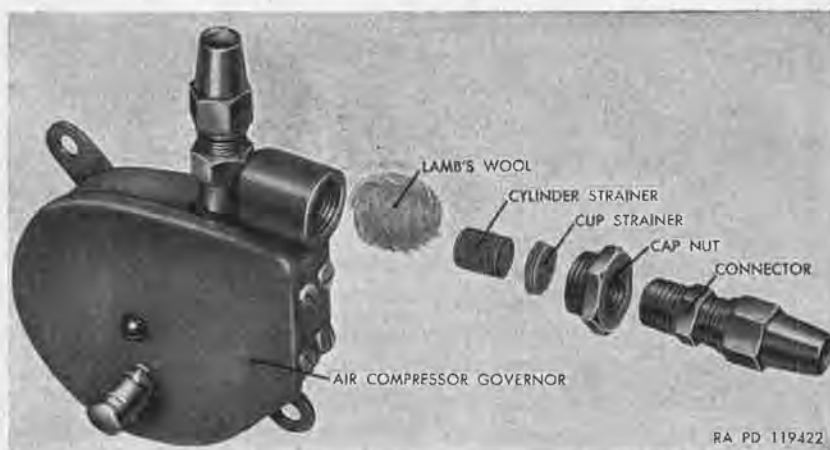

Figure 252. Air-compressor air governor with air strainer disassembled.
- (1) Remove cap nut (fig. 252) from governor strainer body, and pull cup strainer, cylinder strainer, and lamb's wool from strainer body.
- (2) Wash cup strainer, cylinder strainer, and lamb's wool in dry-cleaning solvent or volatile mineral spirits (par. 75).
- (3) Saturate lamb's wool with engine oil, squeeze out excess oil, and place lamb's wool in cylinder strainer.
- (4) Insert cylinder strainer and cup strainer in strainer body, and install cap nut.